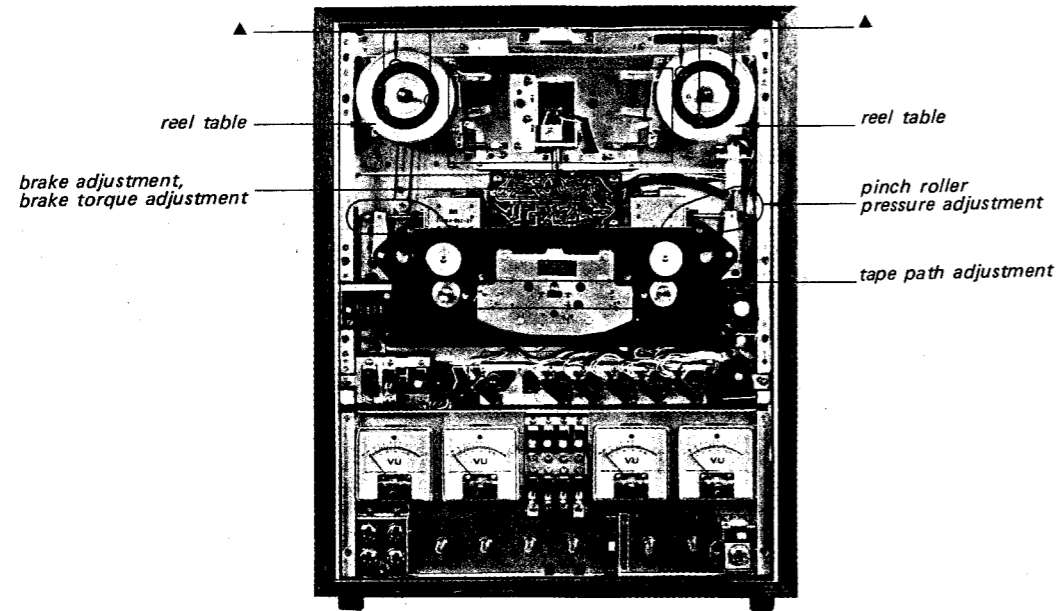

Fig. 3-1-1. Adjusting parts location
- (1) Remove the reel panel, referring to "Reel Panel Removal" on page 14.
- (2) Remove the reel table by removing the six screws marked with ▲ in Fig. 3-1-1.
- (3) Place the unit in the STOP mode.
- (4) Loosen the two screws marked with ● at the take-up and the supply brake bands.
- (5) Temporarily tighten the screws marked with ● while pulling the brake band in the direction shown by the arrow as far as it will go.
- (6) When pushing the pole piece of solenoid slowly into its housing by the hand, the releasing plates of the take-up side and the supply side should touch the each brake lever at a time. If not, loosen the screw marked with ● of the part at which the releasing plate touches the brake lever faster than the other one and adjust the length of the brake band.
- (7) Place the unit in the PLAY mode.
- (8) Be sure that the brake solenoid is energized.
- (9) Loosen the three screws marked with ■ and adjust by positioning the brake solenoid holding plate so that the three screws are in the middle of the respective oval-shaped
- (10) There should be a clearance of approximately 0.5 mm ($1/64$ ") equally between the brake lining and the brake drum. If not, loosen the screw marked with ● and adjust by positioning the brake band.